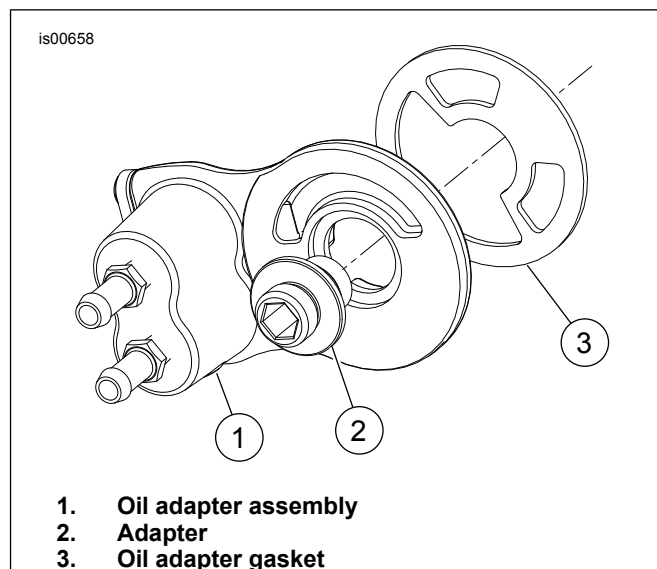

Figure 4. Install Oil Adapter
9. See Figure 4. Install the oil adapter gasket (3) onto the oil filter adapter assembly (1). The oil adapter assembly flanges should be aligned so it is installed into the oil adapter gasket cutout.